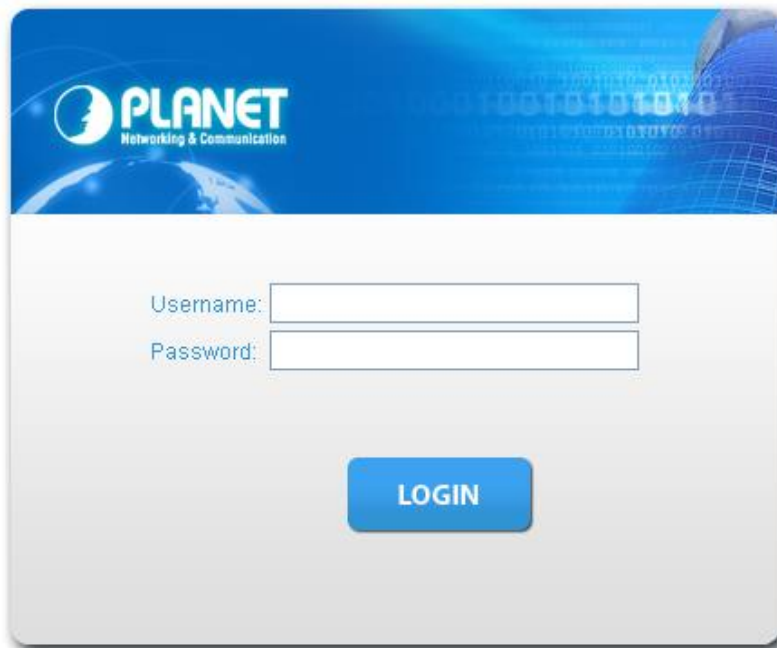

Figure 4-1-2 Login screen
- When the following login screen appears, please enter the default username "**admin**" with password "**admin**" (or the username/password you have changed via console) to login the main screen of Managed Media Converter. The login screen in Figure 4-1-2 appears.